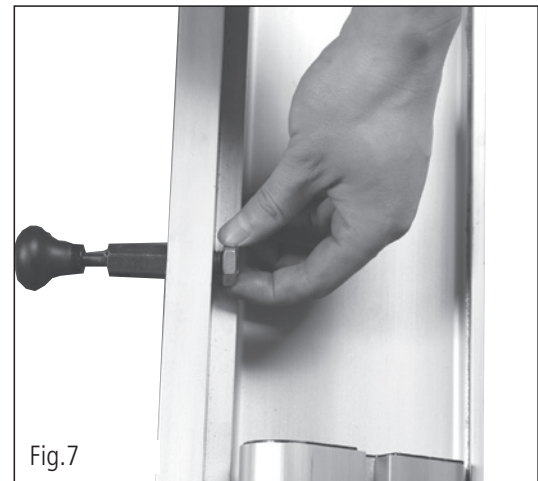

Fig.7
2. Attach the plunger lock assembly to the sliding beam by inserting it through the locating hole in the side of the sliding beam extrusion and secure with the nut provided (Fig 7).